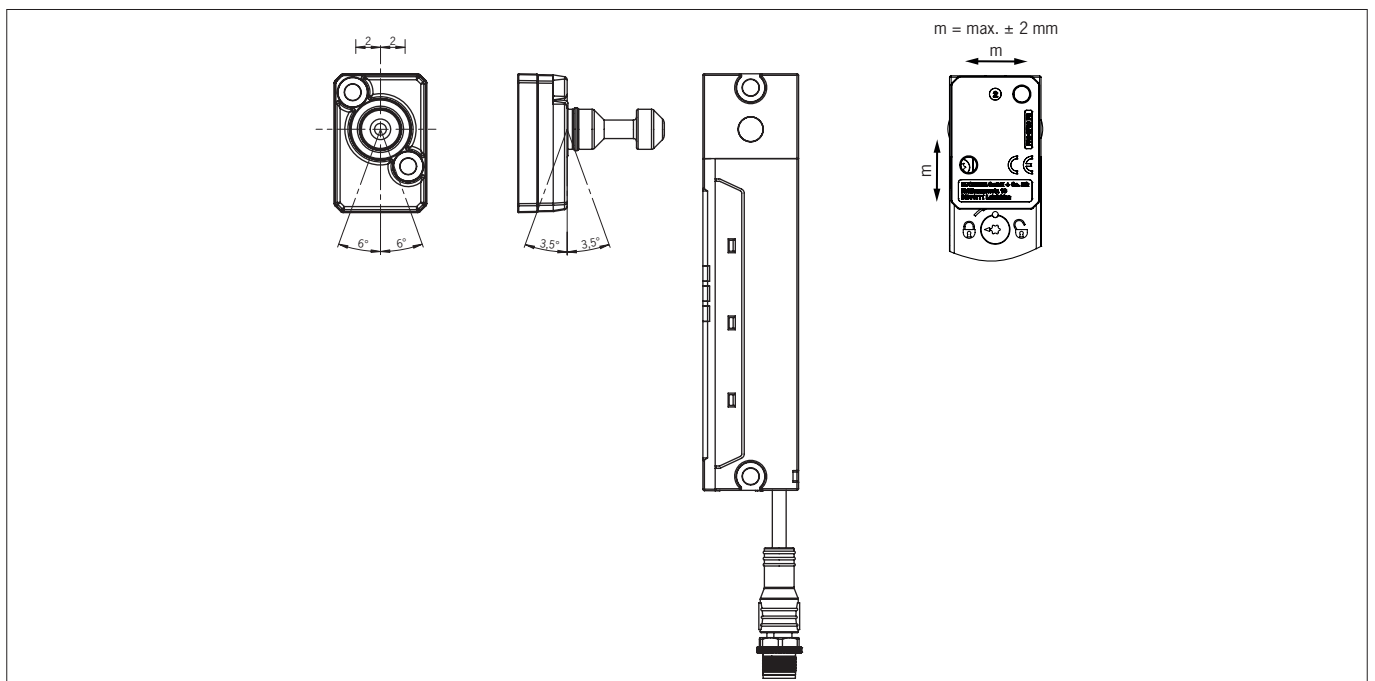

Fig. 4: Maximum actuator deflection and maximum center offset
- › Observe the maximum permissible inclination angles between switch and actuator (see Fig. 4).